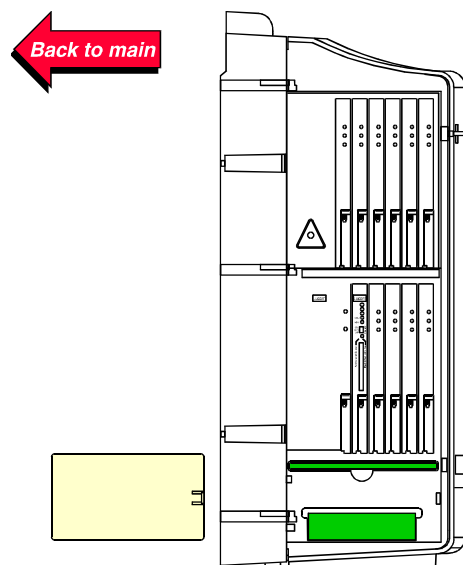

Figure 3-15. Fan/Filter Removal
- Remove the fan/filter access panel. See Figure 3-15.